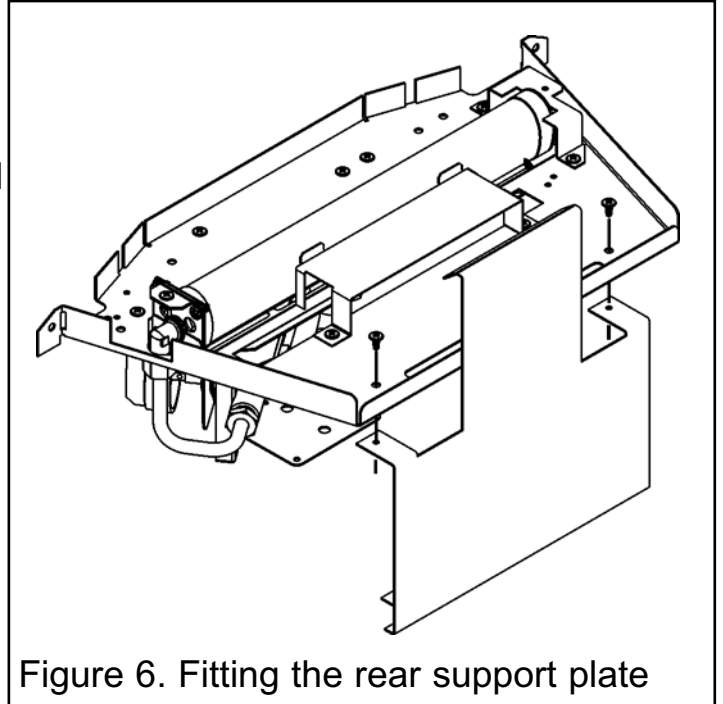

Figure 6. Fitting the rear support plate
5.3.1 Prior to installation of the burner the rear ceramic support bracket must be fitted (See figure 6). Secure with two self-tapping screws but do not over-tighten as these will have to be removed again when installing the burner.